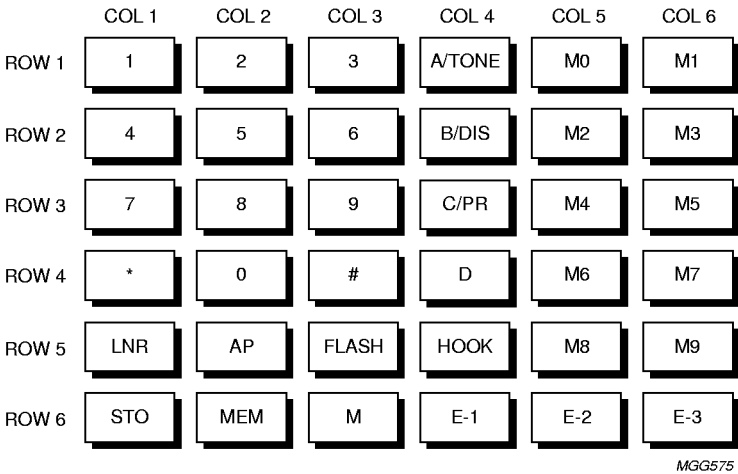

Fig.5 The most complex keyboard, option for column 4 is programmed into EEPROM.
- Figure 5. The most complex keyboard. A second possibility for column 4 exists. This column can be selected via EEPROM.